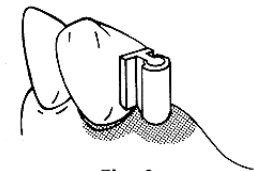

Fig. 9
15. Prepare the model for refractory duplication - blocking out undercuts in the gingival area of the male. The blockout should extend approximately 2mm around the attachment (Fig. 9). This blockout will prevent potential tissue impingement by the metal framework during function.